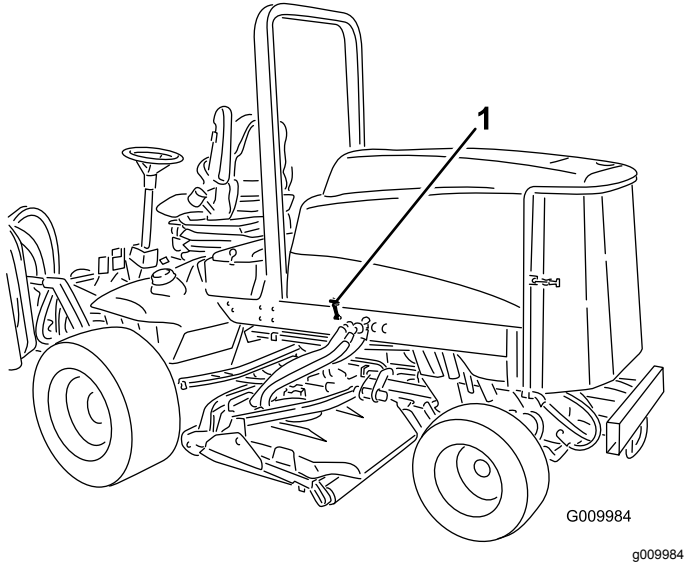

Figure 20
1. Release hood latches (Figure 20) and pivot open the hood.